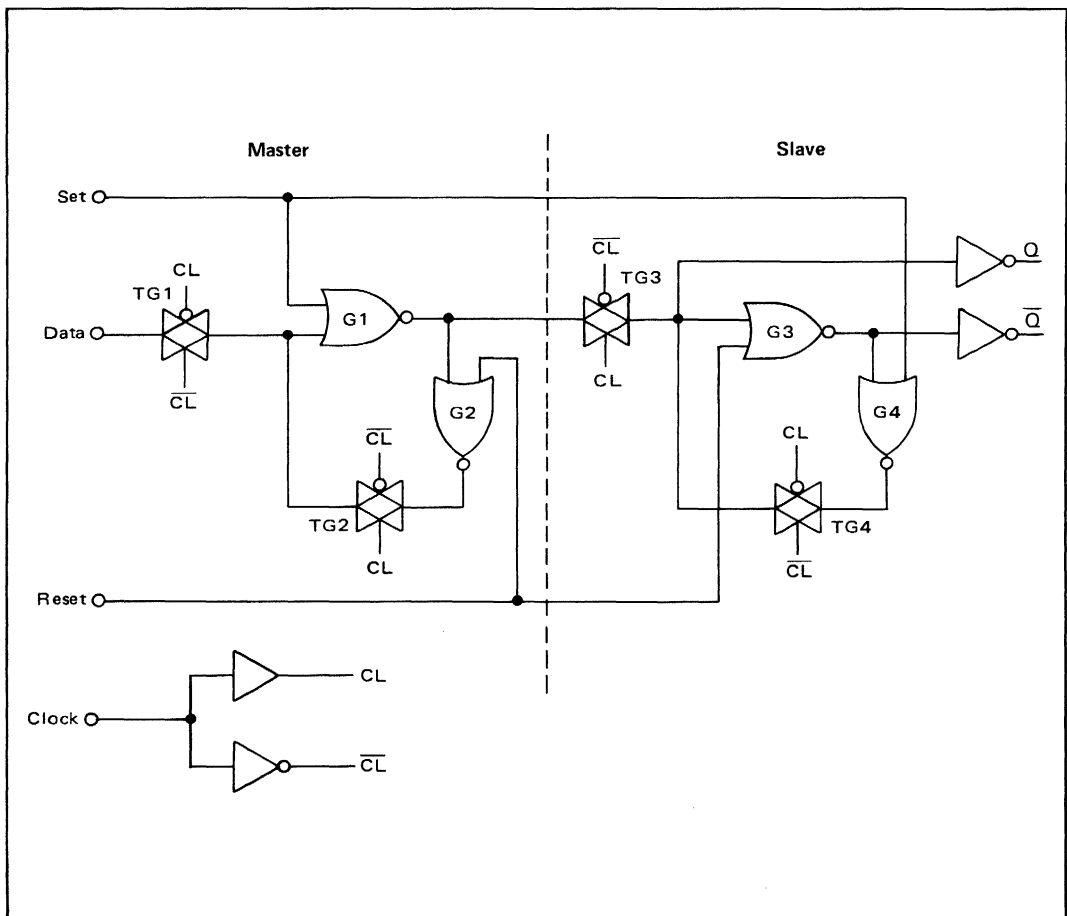

FIGURE 2-36 – McMOS TYPE D FLIP-FLOP
The transmission gate is a valuable tool used for accomplishing many CMOS technology MSI and LSI designs. An illustration of using the basic transmission gate is provided in the McMOS MC14013, Type-D flip-flop as shown in Figure 2-36. The flip-flop works on the Master/Slave principle and consists of four transmission gates (TG). Four NOR gates, two inverters, and a clock buffer/inverter, comprise the configuration. When the clock is a logic "0", transmission gates TG2 and TG3 are OFF and 1 and 4 are ON. In this condition, the Master is logically disconnected from the Slave. With TG4 ON, gates G3 and G4 are cross-coupled and latched in a stable state. Assuming that the Set and Reset inputs are low, the logic states of gates G1 and G2 are determined by the logic signal applied to the Data input. When the clock changes to a logic "1", TG2 and TG3 turn ON and TG1 and TG4 turn OFF. Gates G1 and G2 are cross-coupled through TG2 and latch into the state they held at the time the clock changed from a "0" to a "1". With TG3 ON, the logic state of the Master section (output of gate G1) is fed through an inverter to